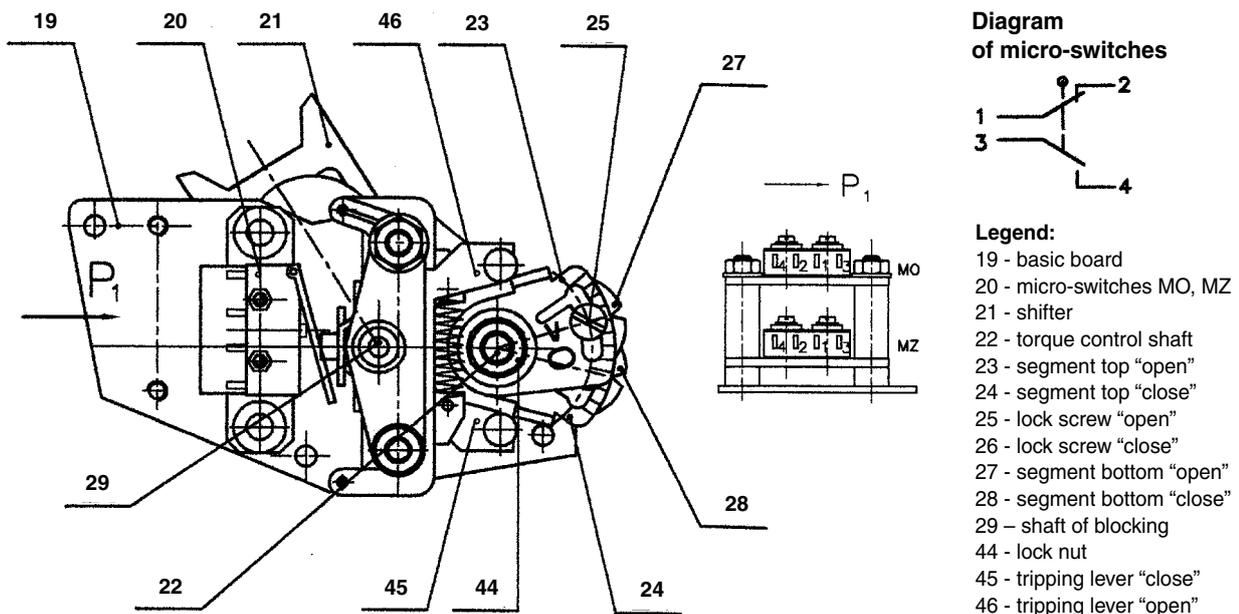

Fig. 2 - Torque-limit switching unit
**a) Torque-limit switching unit** - Fig. 2 is, as an independent assembly unit, composed of basic board 19 carrying micro-switches 20 and, at the same time, forms bearings for the shaft of torque control 22 and the shaft of blocking 29.
In setting different tripping torque than that to which the unit was set in the factory, the procedure is as follows: release lock nut 44 (see Fig. 2) and particular lock screw -26- (for direction "close") or 25 (for direction "open"). Then, insert a screwdriver into the slot in top segment -24- or -23- and turn the segment until the slot in segment 28 or 27 matches with particular point on the scale. This point is determined by dividing the difference between the maximum and minimum adjustable torque in Nm by the number of divisions between the mark of the maximum and minimum torque. The result shows which part of the tripping torque (in Nm) corresponds to one division of the scale; interpolation is used for determining the point on the scale which the slot in segment 28 or 27 should tally with.